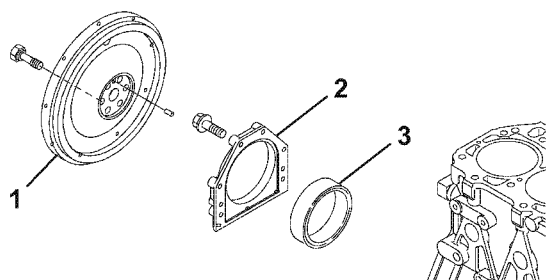

Figure 6-93
7. Apply ThreeBond Liquid Gasket No. 1207F, YANMAR Part No. 977770-1207F to the mounting flange of the seal housing (**Figure 6-93, (2)**).
10. Reinstall the flywheel (**Figure 6-93, (1)**) and tighten the bolts to the specified torque. *See Special Torque Chart on page 6-16 for specifications.*